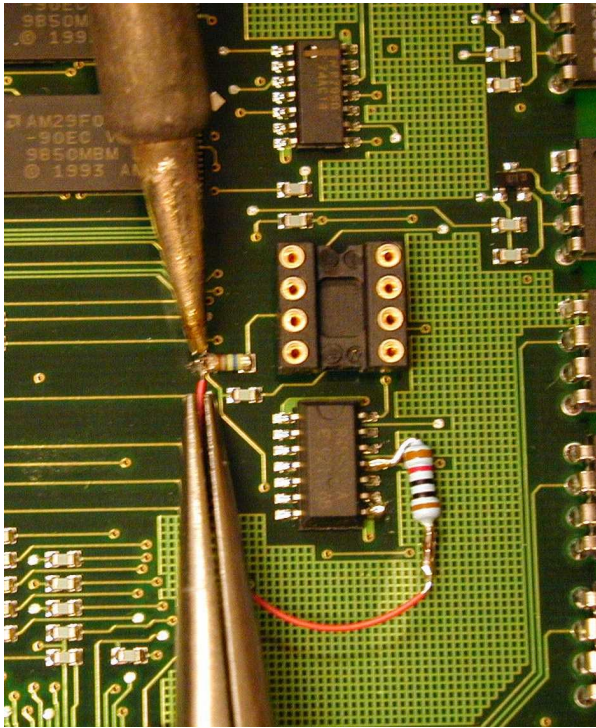
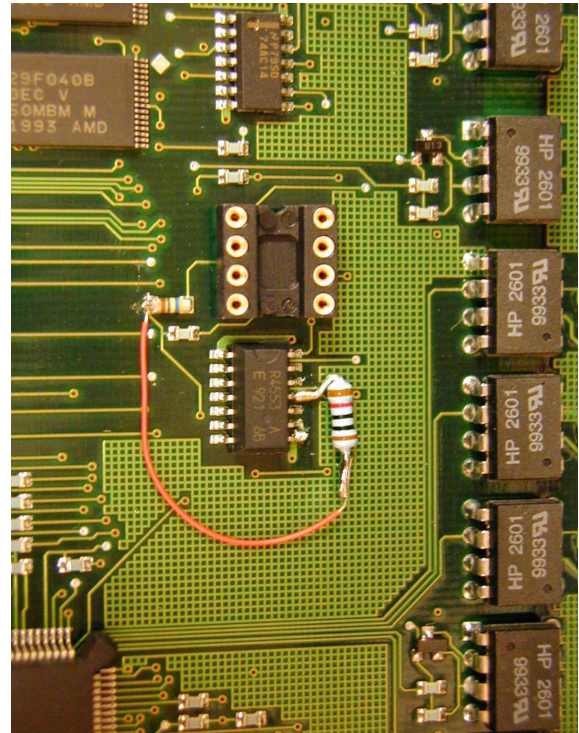

Figure 5- Buss wire to Surface Mount resistor
Figure 6- Completed Rework
7. Attach the remaining loose end of the buss wire to the surface mount resistor as shown in Figure 5. Take care to limit soldering so the Surface Mount resistor does not become detached. For photo of completed rework see Figure 6.